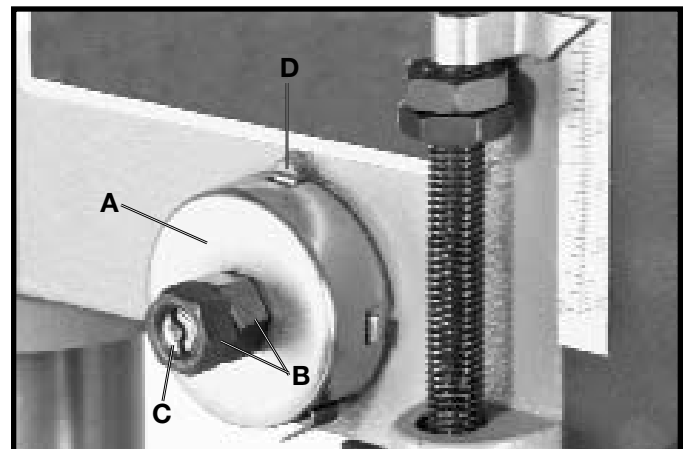

Fig. 24
1. Loosen the two nuts (B) Fig. 24, approximately 1/4". Do not remove nuts (B) from shaft (C).
2. While firmly holding spring housing (A) Fig. 24, pull out housing and rotate it until the boss (D) is engaged with the next notch on the housing. Turn the housing counterclockwise to increase and clockwise to decrease spring tension. Then tighten the two nuts (B) to hold the housing in place. **IMPORTANT:** Inside nut (B) should not contact spring housing (A) when tight.